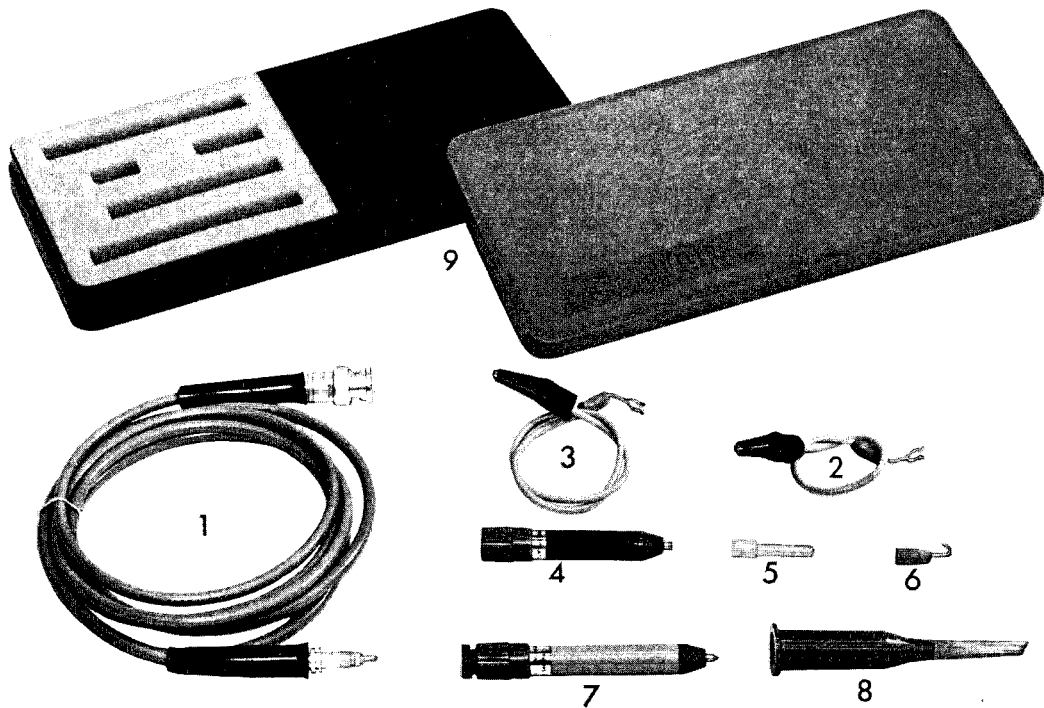

Fig. 18. Attenuator probe set PM 9326 (PM 9327)
### 3.7.5. Attenuator probe sets PM 9326 and PM 9327 (Fig. 18)
1 probe cable	Fig. 18, item 1
1 earth lead 15 cm	Fig. 18, item 2
1 earth lead 30 cm	Fig. 18, item 3
1 measuring probe 1:1 (black)	Fig. 18, item 4
1 test pin	Fig. 18, item 5
1 test hook	Fig. 18, item 6
1 attenuator probe 1:10 (grey)	Fig. 18, item 7
1 test clip	Fig. 18, item 8
1 box	Fig. 18, item 9